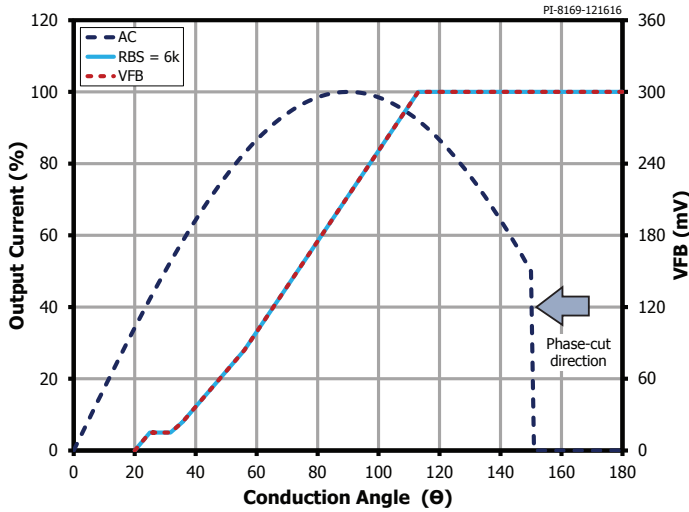

Figure 10. Dimming Curve Showing Feedback Voltage in Relation to Output Current versus Conduction Angle.
LYTSwitch-3 device dimming is a closed loop function with respect to conduction angle in which dimming is achieved by adjusting the internal feedback voltage reference (VFB) of the IC in the same direction as the TRIAC conduction angle, which is measured from the input bus via a resistor to the LINE-SENSE (L) pin. As the TRIAC conduction angle decreases or increases, the FEEDBACK (FB) pin voltage (VFB) proportionally increases or decreases respectively (see Figure 10). Many dimmers available in the market have limited maximum conduction angle (e.g. < 130°) that when an incandescent or a LED bulb is connected to such dimmer, loses light output significantly. To maintain light output brightness, LYTSwitch-3 devices maintain full output current regulation up to approximately 115° conduction angle before it starts reducing output current to dim the light. The VFB is maintained at 300 mV up to 115° and reduced proportionally with 5% (~15 mV) until load shutdown if enabled, is activated or the TRIAC stops conducting due to lack of holding current (see Figures 6 and 7).